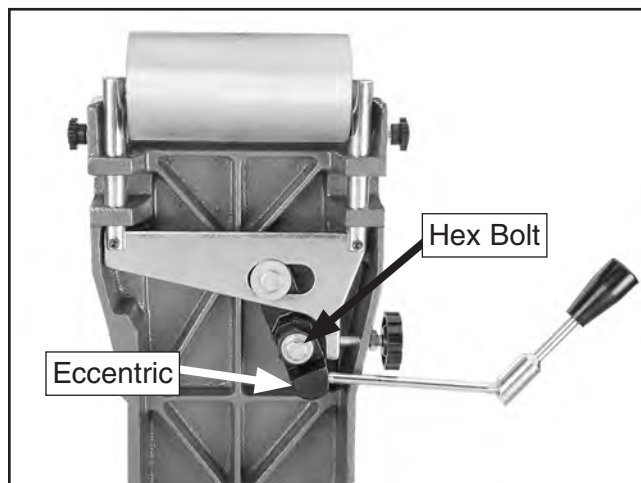

Figure 91. Location of belt tension adjustments (belt removed for clarity).
3. Loosen the hex bolt on the eccentric (see **Figure 91**).